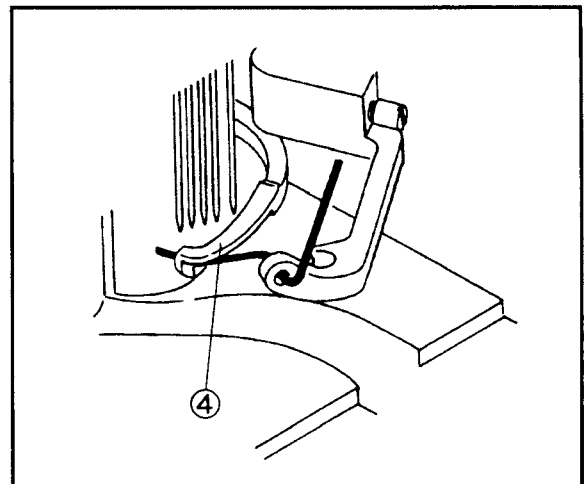

Fig. 54
The moment the top cover thread is hooked with the top cover thread hook④ (Fig. 54), the thread is held at the point 0 - 1.0 mm apart from the top of the take-up⑤.